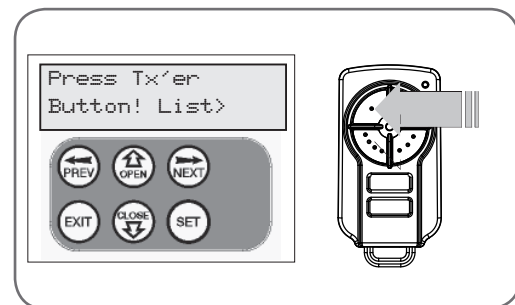

fig 26
2. Press the transmitter button you wish to use to operate the door opener (e.g. button 1) (Fig. 26).
The controller will now show the transmitter's record, with a cursor on the field for the button being coded (Fig. 26). Use UP/DOWN to select the function for the button.